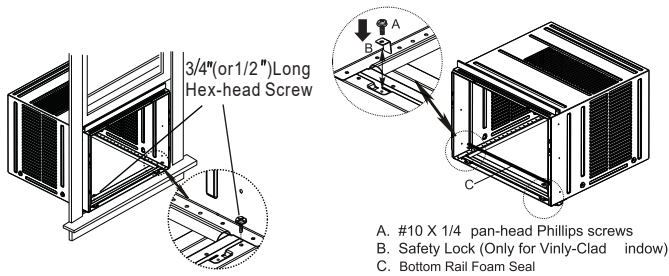

Fig.13
4. For wooden window: Fasten cabinet to window inner sill with two screws into holes (Fig.13) (You may wish to pre-drill pilot holes). For Vinyl-Clad window: Place two safety locks into the holes located in the bottom of the cabinet and drive two #10X1/4" pan-head Phillips locking screws through the safety locks into the cabinet as shown (Fig.13B).